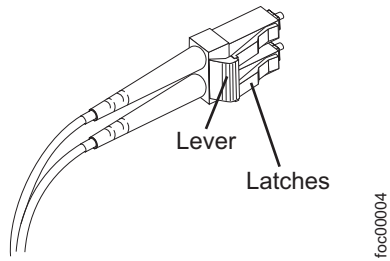

Figure 19. Fiber-optic cable lever and latches
1. Press down and hold the lever (see Figure 19 on page 42) to release the latches.